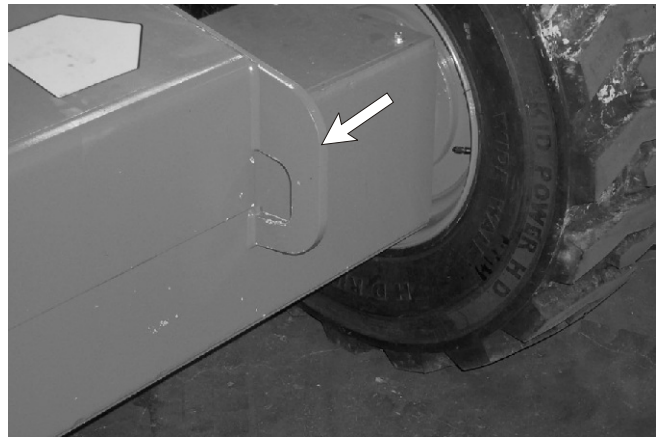

Figure 9.5—Tie-Down Lifting Lugs
5. Attach the winch to the tie-down lugs (refer to Figure 9.5) on the front of the chassis.